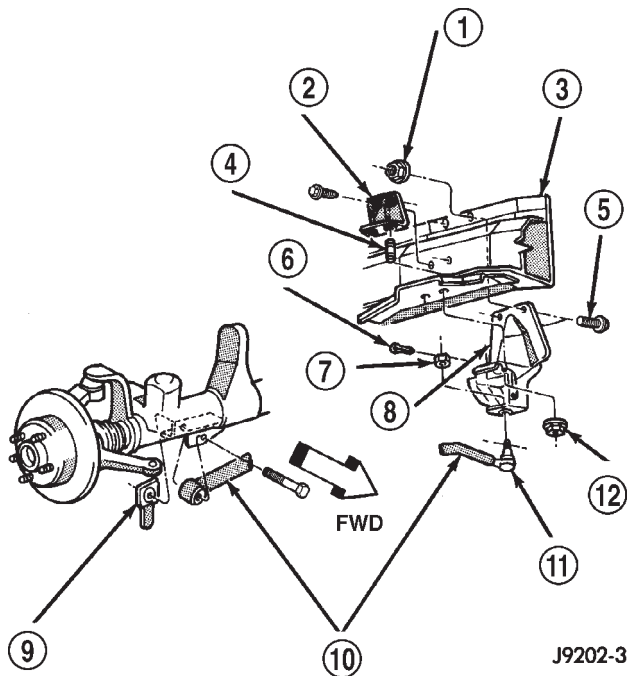

Fig. 7 Track Bar (LHD)
- (1) Raise and support the vehicle.
- (2) Remove the cotter pin and nut from the ball stud end at the body rail bracket.
- (3) Use a universal puller tool to separate the ball stud from the frame rail bracket.
- (4) Remove the bolt and flag nut from the axle shaft tube bracket (Fig. 7).
- (5) Remove the track bar.